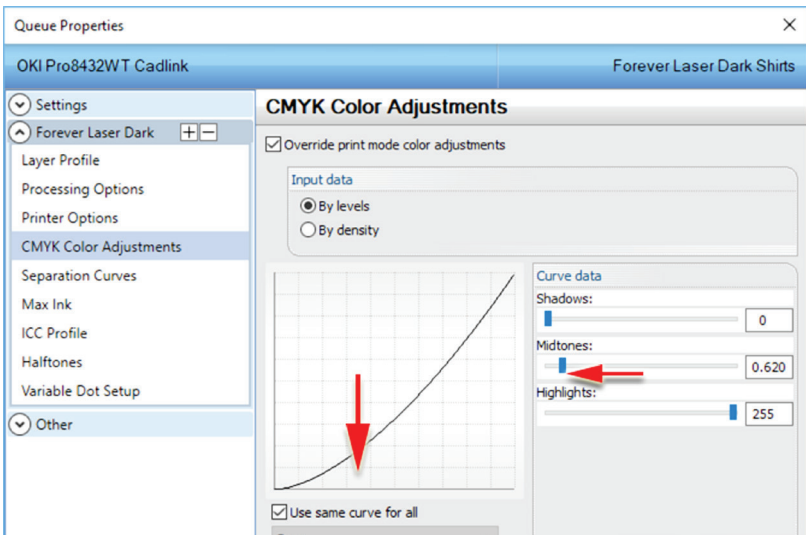

Fig. 14 - On the **CMYK Colour Adjustments** tab, reduce the **Midtones** slider value, so that jobs will acquire a darker hue when received by the queue.
3. Click the **CMYK Colour Adjustments** tab (Fig. 14).